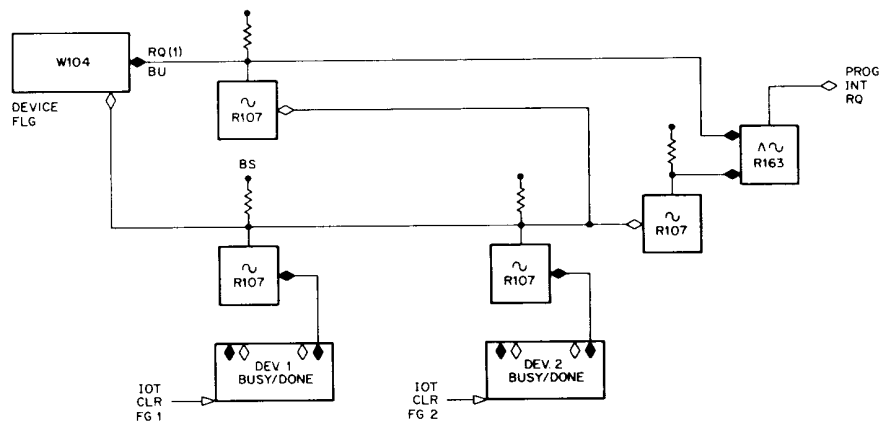

Figure 3-10 Multiple Flags Device Using Both API and PI Facilities
b. Multiple Flag Devices- The hardware shown in Figure 3-10 allows multiple flags to use API and PI facilities similar to the way shown in Figure 3-9. Note that when the last flag is cleared, the request flag of the W104 is cleared.